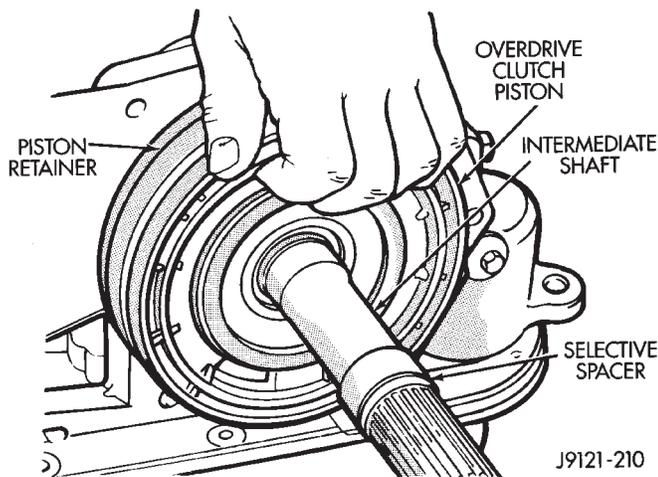
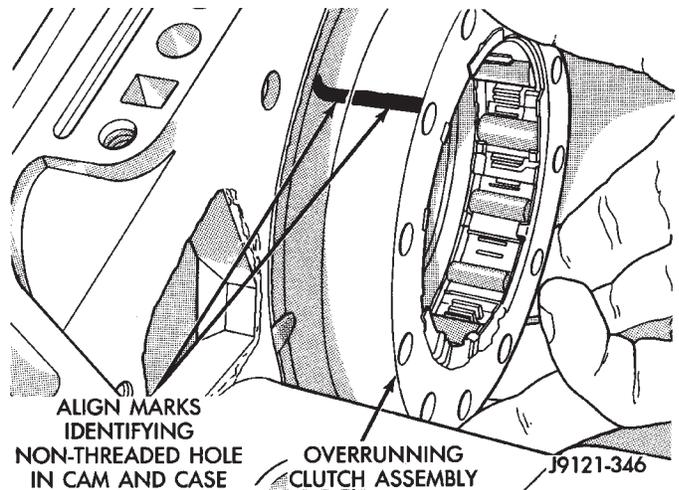

Fig. 154 Overdrive Piston Removal
Fig. 155 Overrunning Clutch Cam Removal
- (1) Remove the overdrive piston (Fig. 154).
- (2) Remove the overdrive piston retainer bolts.
- (3) Remove overdrive piston retainer.
- (4) Remove case gasket.
- (5) Mark the position of the overrunning clutch cam in the case (Fig. 155).
- (6) Remove the overrunning clutch cam bolts.
- (7) Remove the overrunning clutch cam.